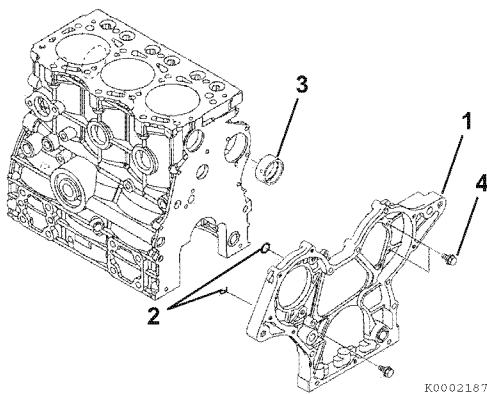

Figure 6-97
1. If removed, install a new camshaft bushing (Figure 6-97, (3)) using the appropriate service tool.
3. Reinstall dowels and new O-rings (Figure 6-97, (2)).
4. Reinstall the gear case (Figure 6-97, (1)). Tighten the bolts (Figure 6-97, (4)) to the specified torque.